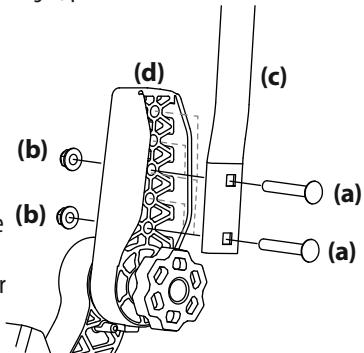

Figure 9
- Remove the two carriage screws (a) and two flange lock nuts (b) that secure the lapbar drive control lever (c) to the upper handle adjuster (d). See Figure 9.
- Move the lapbar drive control lever into one of the three available heights and secure in place with the carriage screws and flange lock nuts. See Figure 9.
- If the lapbars do not line up after making the knob adjustment, loosen nuts (b), align lapbars and retighten nuts. Once this fine adjustment is made, the lapbars will align when using the knob adjustment. See Figure 9.